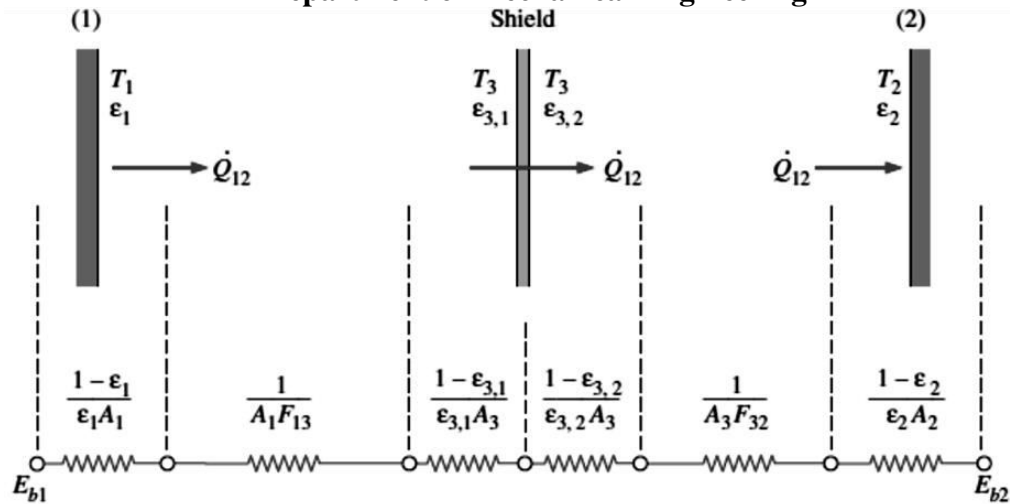

Fig. 6.15 Radiation heat exchange between two infinite parallel plates with radiation shield
- Now consider a radiation shield placed between these two plates as shown in figure 6.15.
- The radiation network of this geometry is constructed by drawing a surface resistance associated with each surface and connecting these surface resistances with space resistances, as shown in figure 6.15.